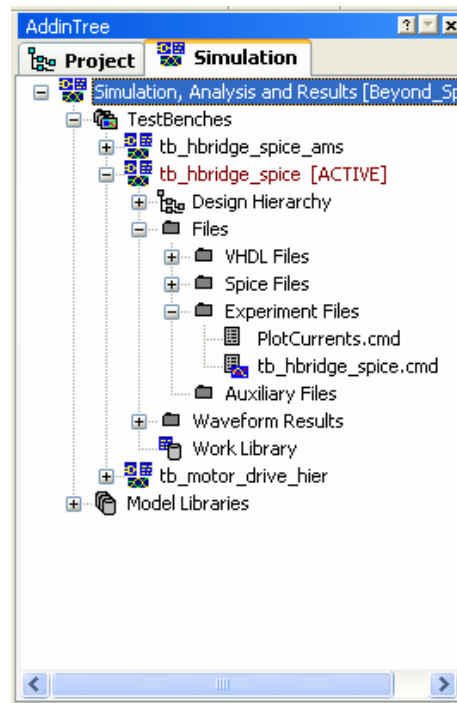

Figure 4 - Simulation Tab in SystemVision
2. Expand **tb_hbridge_spice** testbench to access the **Experiment Files** as in Figure 4 shown below: